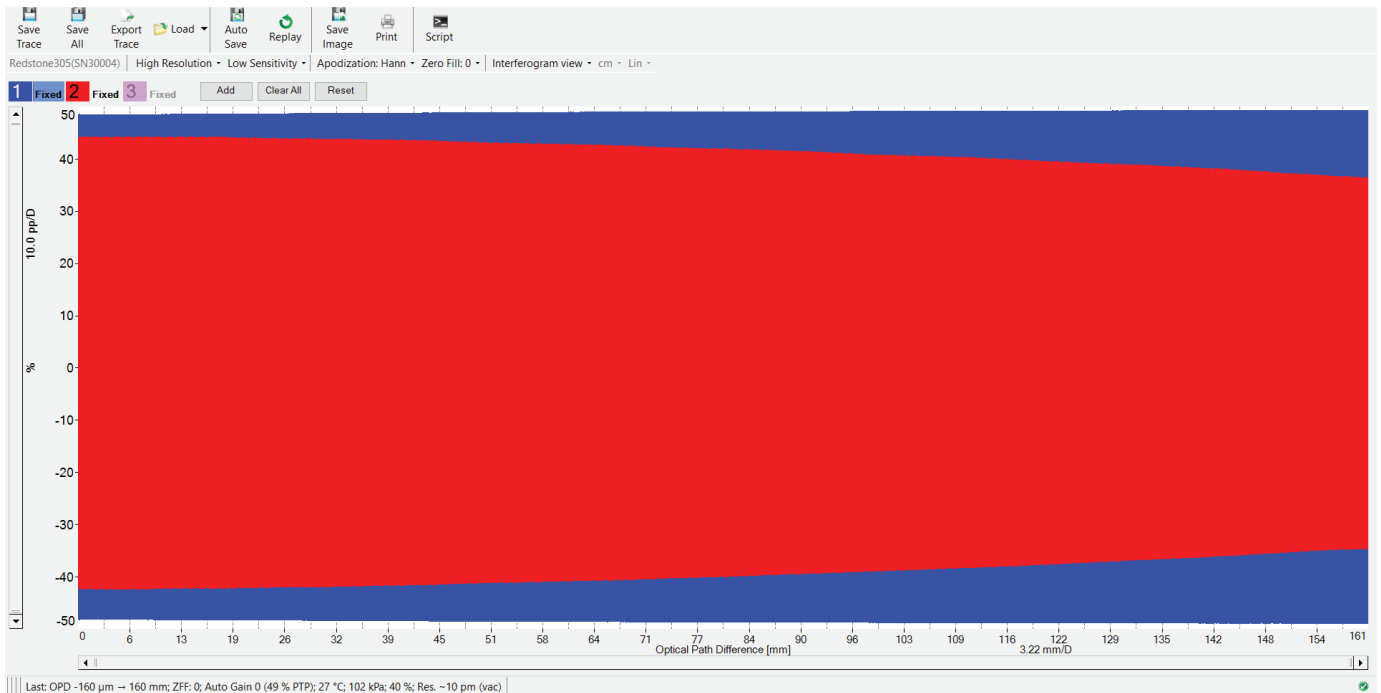

Figure 2: Interferograms corresponding to a (blue) well aligned and (red) misaligned laser source.
For a monochromatic/narrowband source, good alignment is achieved when a flat interferogram envelope is observed for a high-resolution measurement; see Figure 2 for details.
- If the source is monochromatic/narrowband, the alignment can be verified by changing to High Resolution and observing a flat interferogram envelope, as shown in Figure 2.
- If the source is monochromatic/narrowband, the alignment can be verified by changing to High resolution and observing a flat interferogram envelope, as shown in Figure 2.